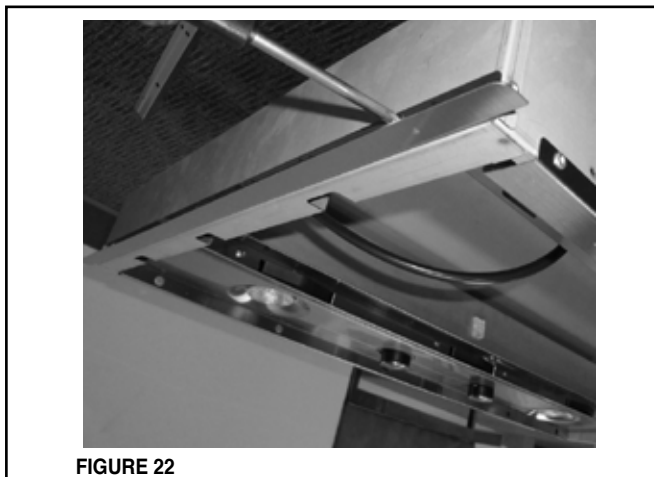

FIGURE 22
2. Remove the white plastic covering and Install the 4 side trim pieces to the outside of the hood using (16) part 9b screws, see the side trim installation in (FIGURE 22).